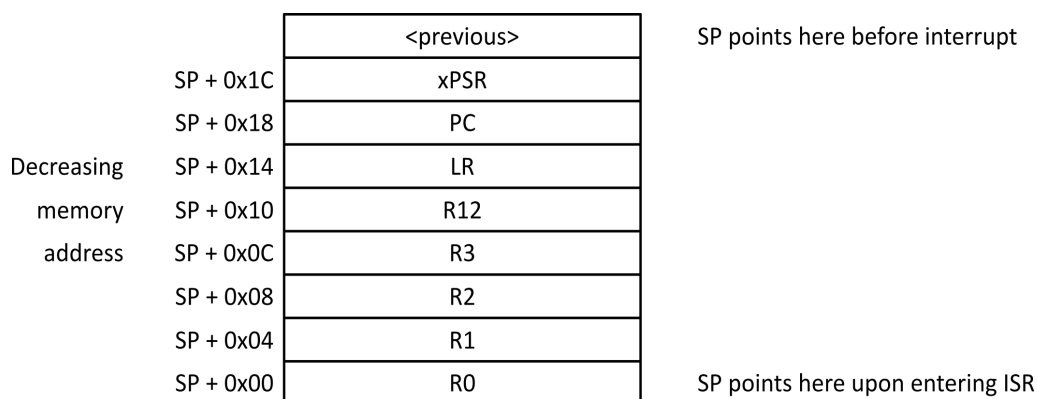

Figure 1.25: Pushing current architecture context onto current stack.
- Save the current architectural state (pushing eight registers) onto the stack xPSR, PC(R15), LR(R14), R12, R3, R2, R1, R0. This operation is called “Stacking” (See Figure 1.25) ;
- Load the EXC\_RETURN value into the LR, which indicates from which stack pointer to restore registers: MSP (0) or PSP (1), and which mode to return to: Handler (0) or Thread (1) (the EXC\_RETURN value = 0xFFFF\_FFF9 indicates return to thread with MSP) ;